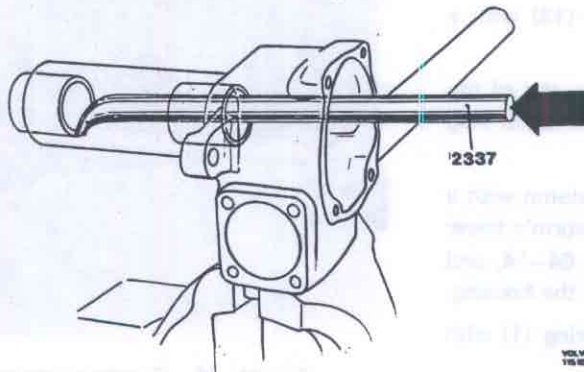

Fig. 64-17. Removing the bushing
4. Check the sector shaft bushings (2, 4 and the one in the upper cover), see Fig. 64-1. If loose, replace the bushings. Knock out the bushings (2 and 4) with drift 2337 in their own direction, see Fig. 64-17. The bushing in the upper cover cannot be replaced, and for this reason the cover must be replaced complete. The bushings are pressed in each from their own direction with drift 2179 and standard handle 1801, see Fig. 64-18.